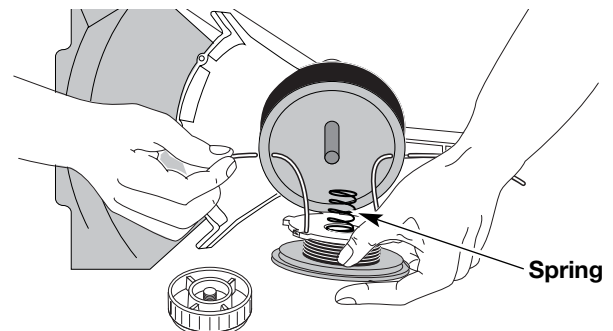

Fig. 31
- Insert the ends of the line through the eyelets in the outer spool and place inner reel with spring inside the outer spool (Fig. 31). Push the inner reel and outer spool together. While holding the inner reel and outer spool, grasp the ends and pull firmly to release the line from the holding slots in the reel.
5. Insert the ends of the line through the eyelets in the outer spool (Fig. 31).